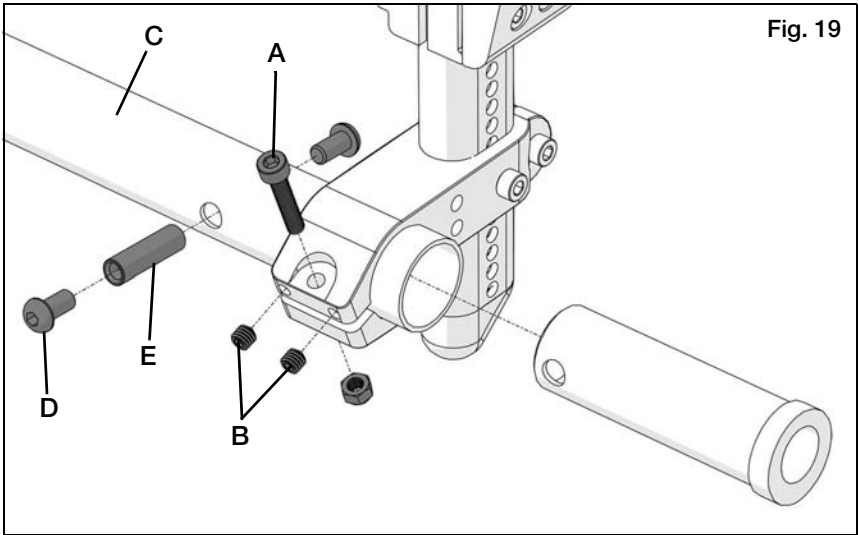

Fig. 19
- c. Press threaded barrel (Fig. 19:E) into through holes in camber tube.
- d. Using two 4mm hex wrenches, insert 6mm screws (Fig. 19:D) into threaded barrel and tighten securely.